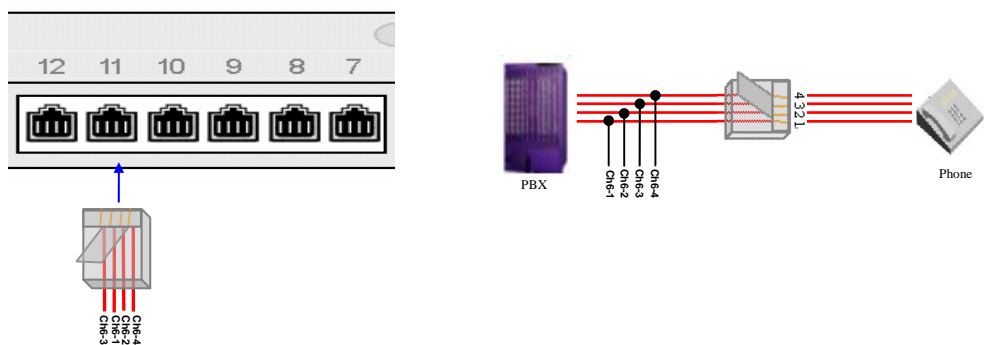

Figure 2-17
- 3) NOTEL M2250 digital phones: See Figure 2-17 below. In parallel, connect the 1st and 2nd leads of the communication line between the PBX and a phone to the 2nd and 3rd pins of each odd-numbered RJ11 jack on the adapter, and the 3rd and 4th leads to the 1st and 4th pins.